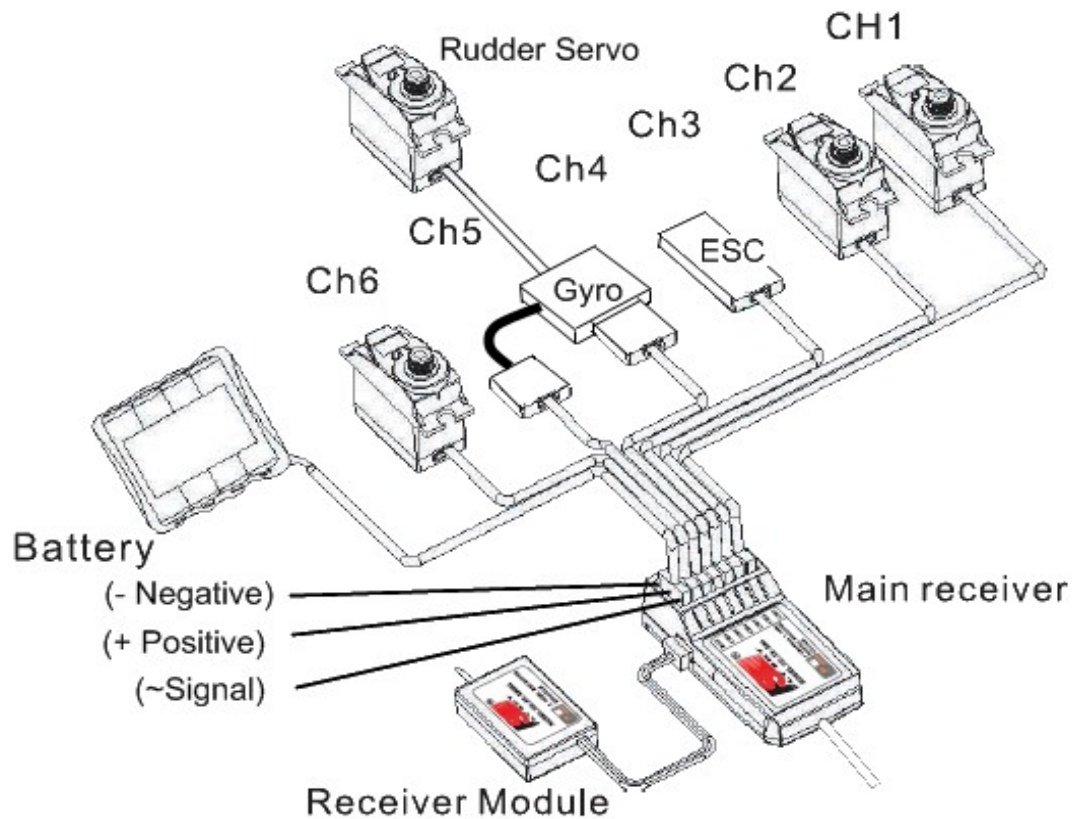

Fig 6
You should already have the servos installed, and the wires connected to the receiver as shown in Fig 6, and the wires secured to the frame so that they will not be caught in any moving parts. If not, then install the servos now. Refer to the TREX manuals, or your particular model manual to place the servos in the proper orientation. Use the same servo model for all three cyclic servos (Do not mix servo brands or sizes for your cyclic servos). These are the servos that will connect to and control the Swashplate.
**CH1 – Aileron** servo black wire towards the edge of the receiver. (All connections will have the black wire connected towards the edge of the receiver (see Fig 6 below). (Note: The TREX manuals label the left side servo as Aileron, and the right side as the Pitch servo. We don't know if this is a typo, but the accepted name for CH1 right side servo is the Aileron servo.)
2. Insert the binding plug into the BAT port of the receiver (see Fig 6)
3. Connect the ESC to Channel 3, or an external battery (5vdc) to any one of the other channels observing the +/- polarity as in Fig 6. Power up the receiver using the external battery, or connecting the main battery to the ESC. The LEDs should start to flash.
7. Remove the receiver binding plug. Connect your servos and other channels as described in Fig 6.